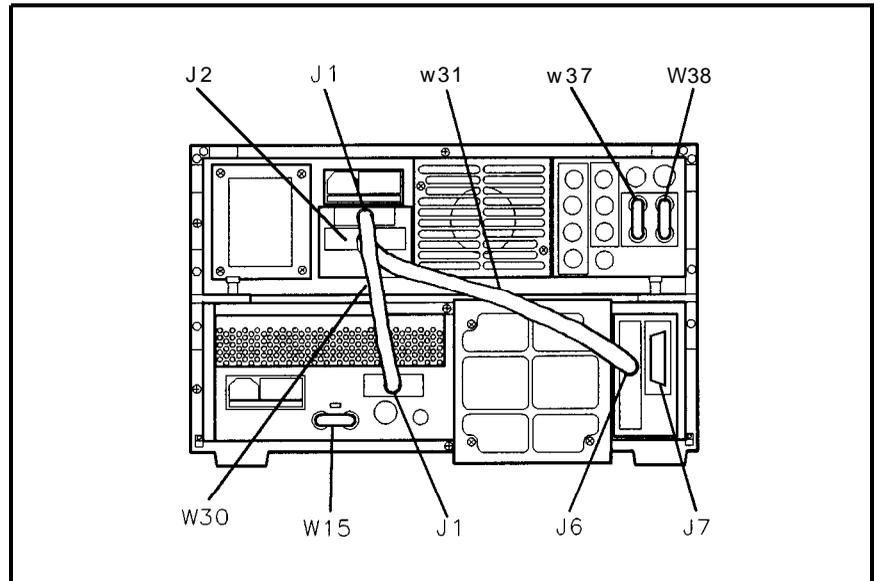

Figure 2-11. Rear-Panel Cable Connections
10. Connect cable W31 between IF-Display section J2 and RF section J6. See Figure 2-11.